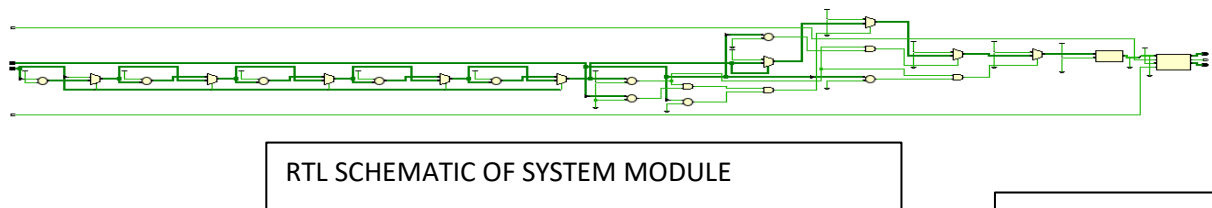

Figure 2
First aim is to finding an efficient algorithm for the project. Since the project depends on data from switches and sensors the design must surely contain multiplexers to pick the wanted conditions and clocks to drive the seven segment display properly. To prevents players from cheating boxes are locked and it is not possible to open box without triggering the switch. Therefore system is capable of detecting the unknown objects. When the game is played by the rules and the winning condition is met number '6' will be seen after switching up the last switch. Otherwise letter 'F' will be seen. After writing the code physical structure of the project is set. Boxes, cups, Basys and the sensors are placed onto a surface ( Figure 2).
1.2. Throughout the architecture, there is logic for updating a display register (display\_reg) based on certain conditions related to the joystick inputs (JA) and the count of active switches (sw). Switches are triggered by pulling the lid of locked boxes (Figure 2). The count of active switches is used to determine the value displayed on the lower four bits of the display register. The algorithm that checks for the winning condition is depending on the inputs JA ( signals coming from sensors) and SW. Algorithm uses multiplexers to check whether JA'S and SW's are meeting the winning conditions. Reset button is added to eliminate any unwanted scenarios manually.